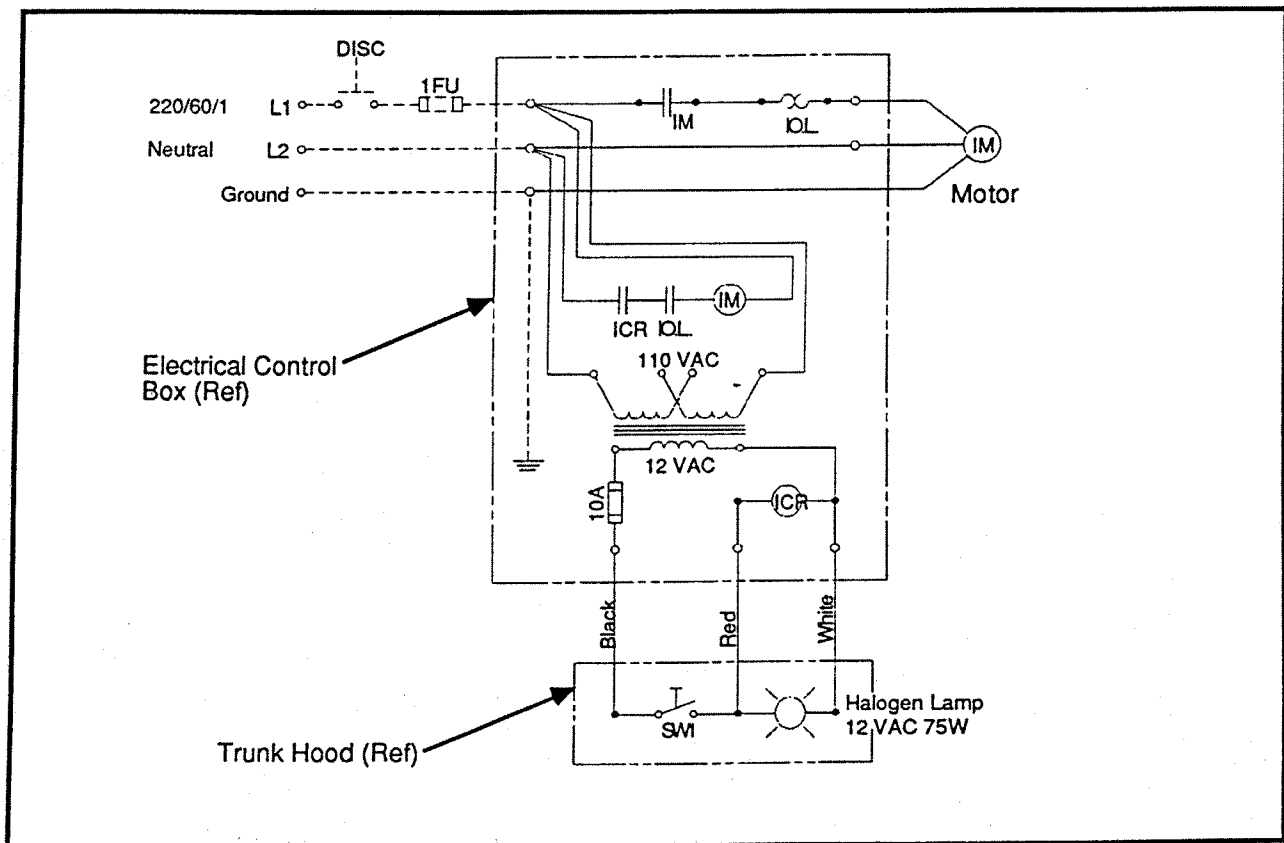

Figure 4
2.5.1 Electrical Operation - Single Phase Only (See Figures 4, 5, 6, and 7)